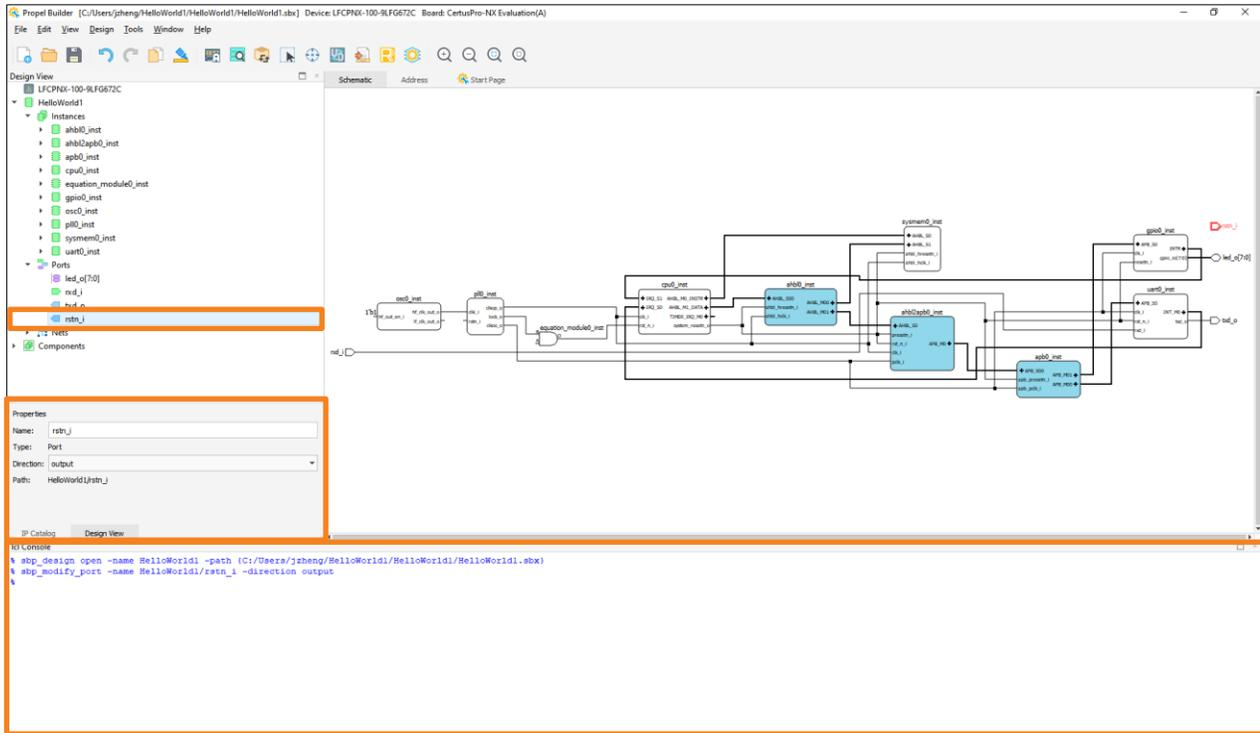

Figure 2.69. Port Direction
- b. Port direction can be modified. You can use the drop-down menu to choose the desired port direction. TCL command is shown in **Design View** (Figure 2.69).
- c. Port width can only be modified if it is already multi-bit. An error message is prompted out or shown in TCL console, if the input value does not meet rules (Figure 2.69).